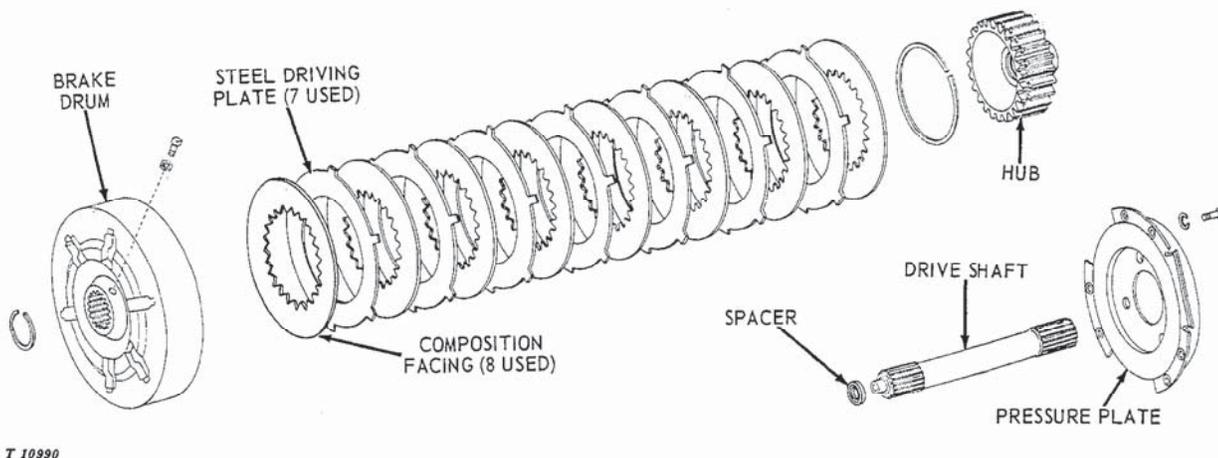
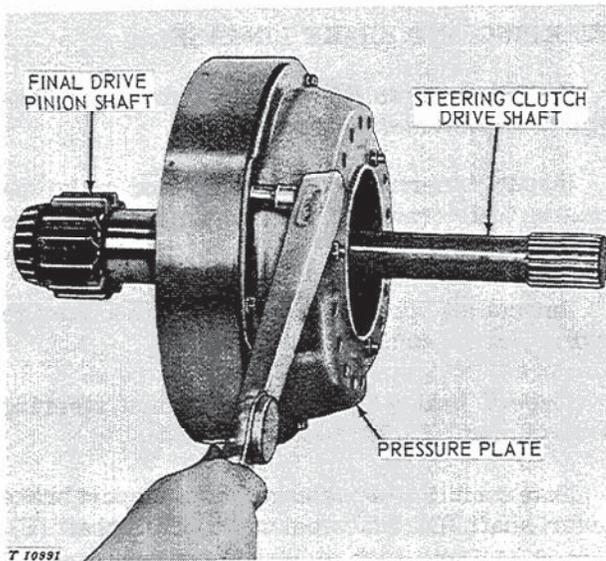

Fig. 140-15-3—Exploded View of Steering Clutch
Fig. 140-15-4—Installing Pressure Plate
Remove pressure plate (Fig. 140-15-3) and inspect steel plates and composition facings (Fig. 150-15-2) for burrs, warpage, or excessive wear. Excessive wear can be detected by comparing the thickness of contact areas with that of non-contact areas. All plates and facings should be flat and free from defects of any kind. DO NOT wash composition facings in any type of solution
To assemble steering clutch, first align hub (Fig. 140-15-3) with brake drum by installing final drive pinion shaft with pilot bearing and steering clutch drive shaft (Fig. 140-15-4).
Install pressure plate and tighten cap screws to 21 ft-lbs (Fig. 140-15-4). Remove both shafts.
*NOTE: If T37091 Shaft is used to replace old drive shaft, do not use spacer in assembly (Fig. 140-15-3).*